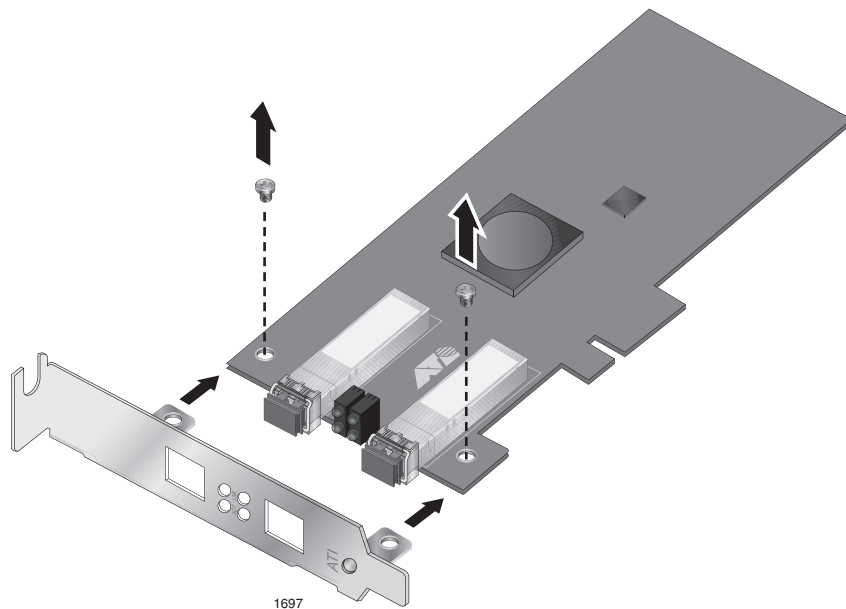

Figure 5. Removing the Low-Profile Bracket
1. Remove the screws that attach the bracket to the adapter. See Figure 5.